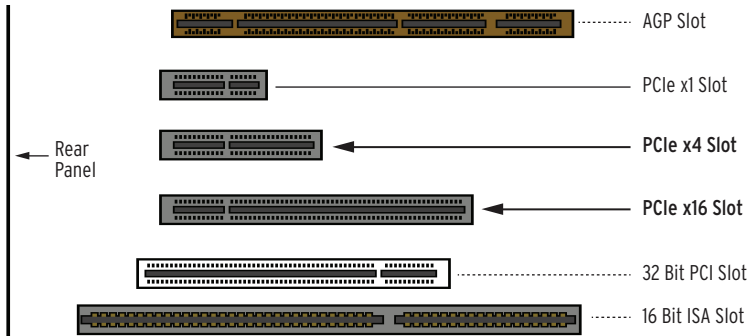

Figure 2 Identifying PCIe Expansion Slots
- Remove the top or side panel of the system chassis to gain access to the expansion slots. Locate an available PCIe expansion slot in which to install the SEL-3390T. The SEL-3390T uses a PCIe x4 interface, which can be plugged into a PCIe x4 slot, as well as longer PCIe x8 and PCIe x16 slots. See *Figure 2* to help identify the proper type of slot.